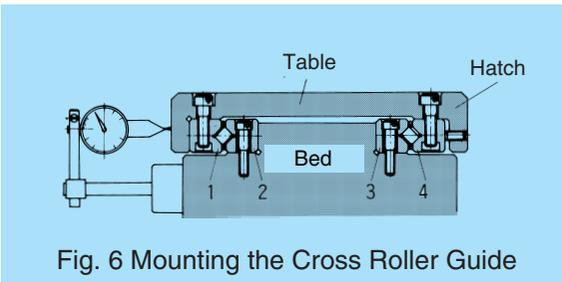

Fig. 6 Mounting the Cross Roller Guide
3. Position the base and table as shown in Fig. 6. Insert roller cages from the rail ends. If the cages cannot be inserted due to insufficient clearance, slide rail 4 toward the adjustment bolt and retry.
4. Position a dial gauge as shown in Fig. 6. While gently pressing the table from the right and left, tighten all adjustment bolts uniformly until there is no slack.